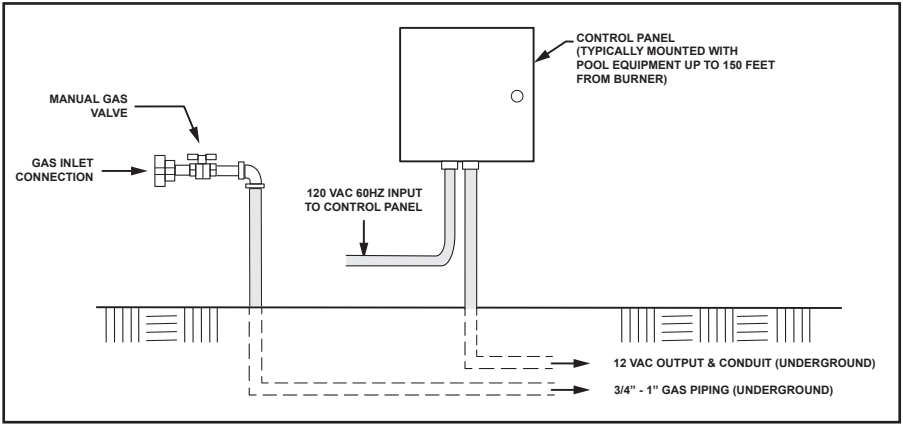
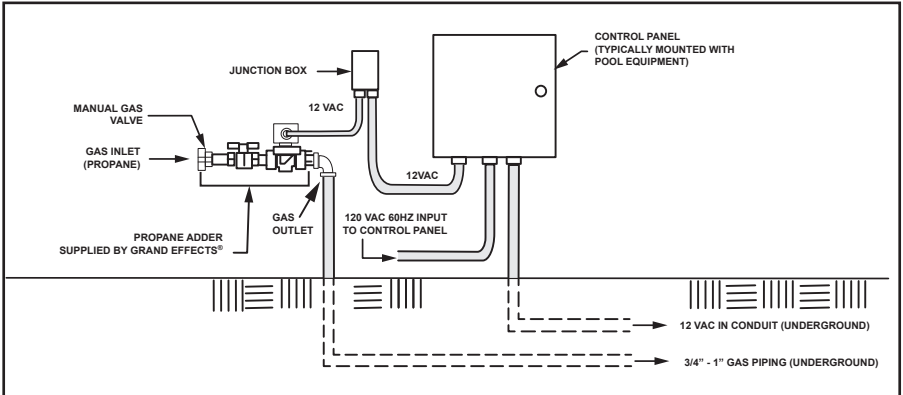
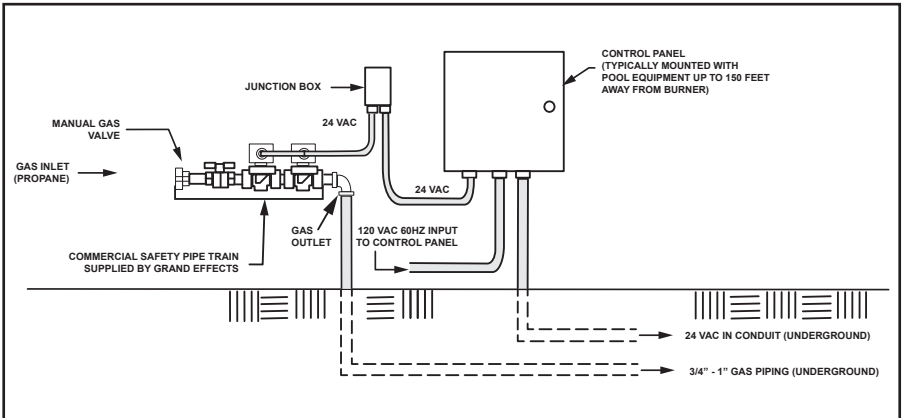

Figure 1. Natural Gas
Figure 2. Propane Gas
Figure 3. Commercial Installation
- See pictures of system components on Fig.3
- Dimensions to construct burner cavities are shown in Figures 1 and 2.
1. Install the control panel and gas piping as shown in Figure 1: Natural Gas, Figure 2: Propane Gas, or Figure 3: Commercial Installation. Gas lines must be clean and free from any dirt, debris, or contamination.
Note: Propane piping is different than natural gas piping (shown in Figure 1 and Figure 2).
2. A safety device called a Propane Adder Valve is required with propane as shown in Figure 2. It is installed upstream of the Line Burner and serves as a redundant safety valve to minimize potential of leakage.